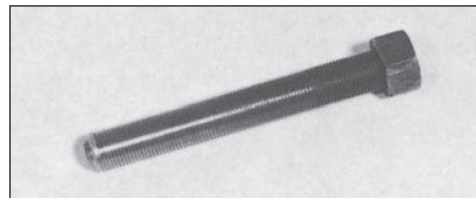

Figure 10-2
**Exciter Rotor Puller Bolt** (figure 10-2) – The exciter rotor has a built-in pulling system. With the use of this bolt, the rotor can be easily removed from the shaft without damage to the winding.